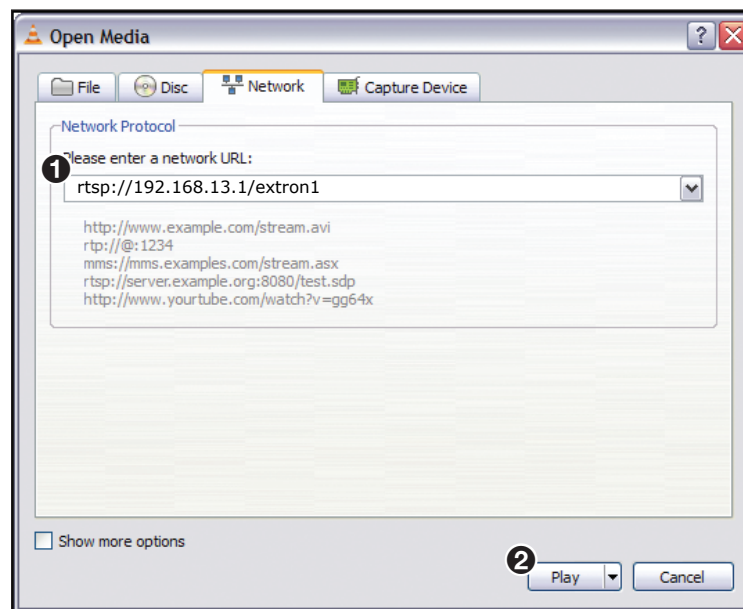

Figure 70. Enter Stream URL Information and Play
5. The Open Network Media dialog box opens. Using the stream URL that was noted in step 2 on the previous page (`rtsp://192.168.13.1/extron1`), enter it into the **Please enter a network URL:** field (see figure 70, ①).